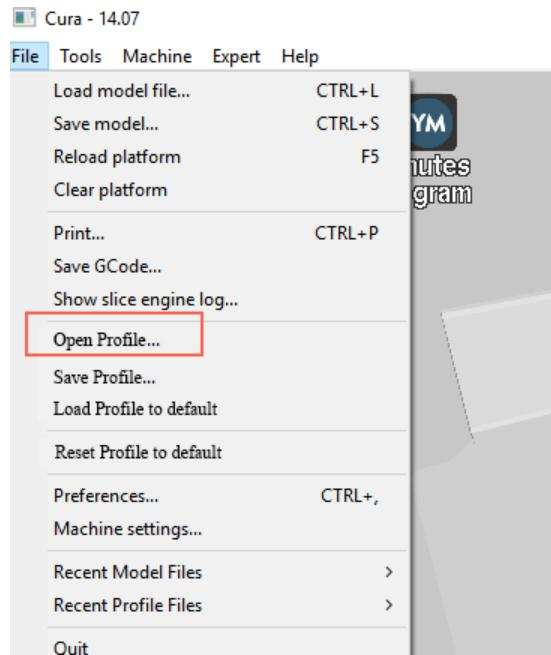

Figure 5.106 Import slice parameters
3. Set slice parameters, and select File > Open Profile to import these parameters, as shown in Figure 5.106.